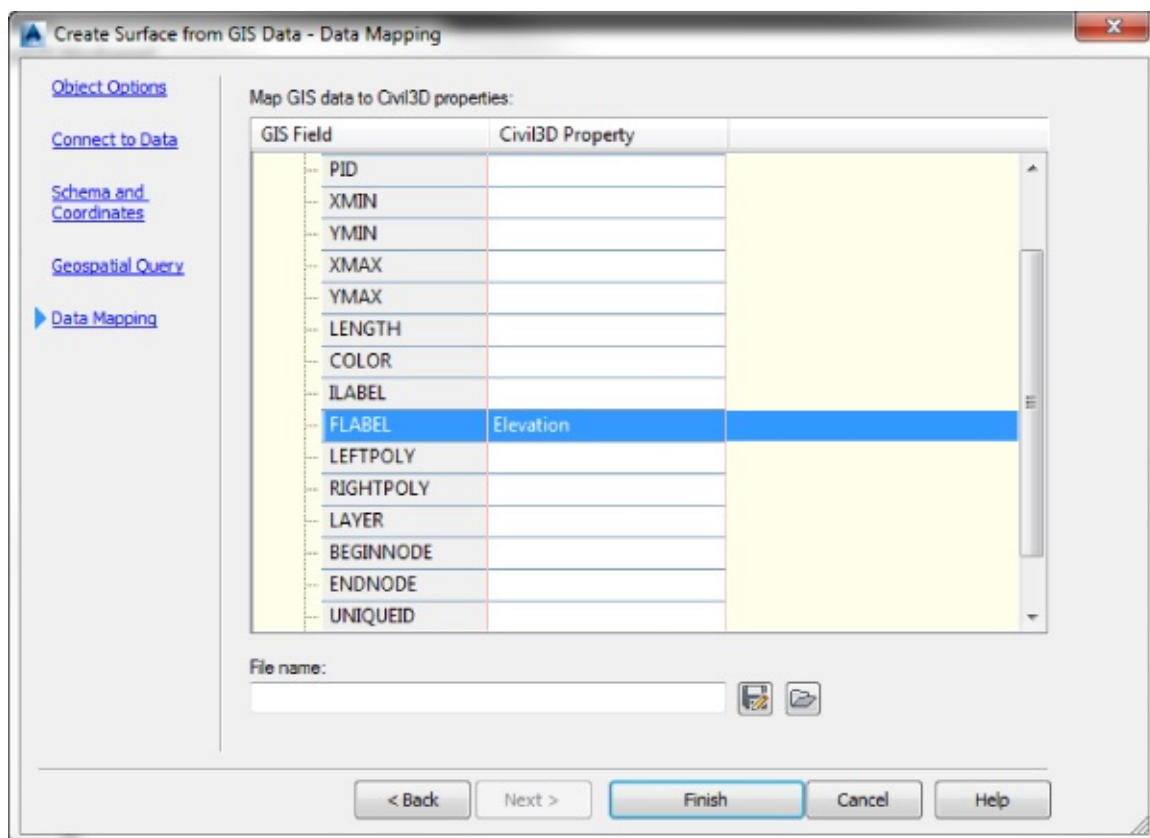

Figure 4.22 The Create Surface From GIS Data – Data Mapping page
9. On the Create Surface From GIS Data – Data Mapping page, click the drop-down list next to FLABEL in the GIS Field column and select Elevation, as shown in Figure 4.22.